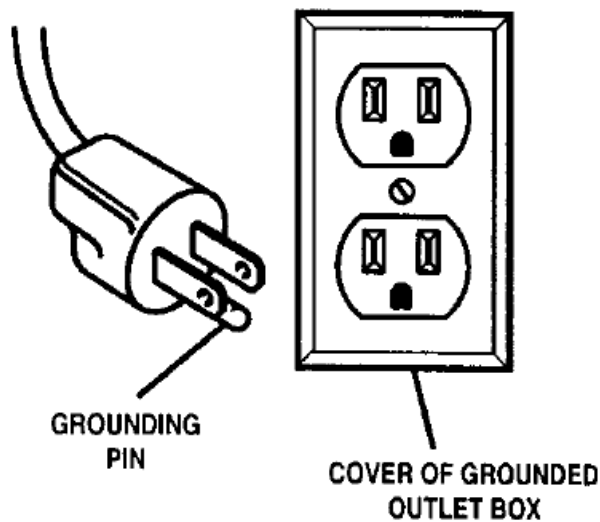

Fig. 1
- This tool is intended for use on a circuit that has an outlet like the one shown in Figure 1. It also has a grounding pin like the one shown.